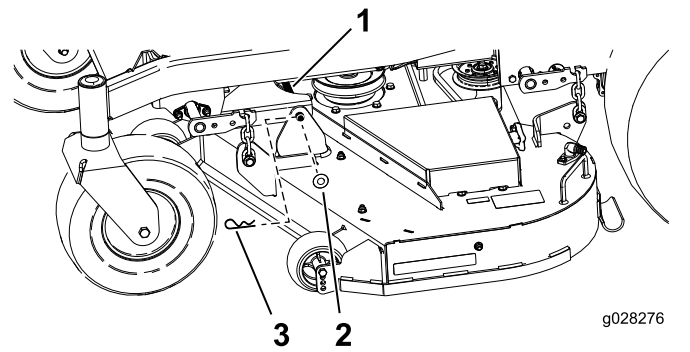

Figure 63
5. Remove the hairpin cotter and washer securing the link pin to the frame and deck, and remove the link bar (Figure 63).
9. Secure the link pin with the hairpin cotters and washers removed previously (Figure 63).